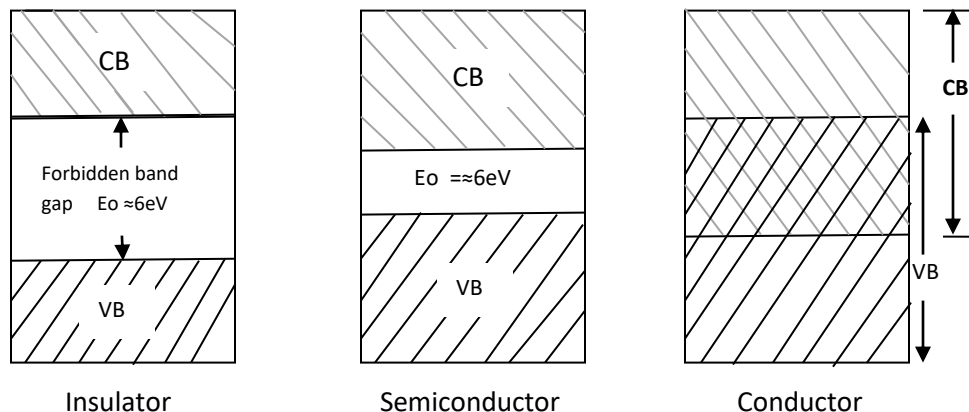

FIG:1.1 Energy band diagrams insulator, semiconductor and conductor
**Insulator:** An insulator is a material that offers a very low level (or negligible) of conductivity when voltage is applied. Eg: Paper, Mica, glass, quartz. Typical resistivity level of an insulator is of the order of  $10^{10}$  to  $10^{12} \Omega\text{-cm}$ . The energy band structure of an insulator is shown in the fig.1.1. Band structure of a material defines the band of energy levels that an electron can occupy. Valance band is the range of electron energy where the electron remain bended too the atom and do not contribute to the electric current. Conduction bend is the range of electron energies higher than valance band where electrons are free to accelerate under the influence of external voltage source resulting in the flow of charge.
For an insulator, as shown in the fig.1.1 there is a large forbidden band gap of greater than 5eV. Because of this large gap there a very few electrons in the CB and hence the conductivity of insulator is poor. Even an increase in temperature or applied electric field is insufficient to transfer electrons from VB to CB.
**Conductors:** A conductor is a material which supports a generous flow of charge when a voltage is applied across its terminals. i.e. it has very high conductivity. Eg: Copper, Aluminum, Silver, Gold. The resistivity of a conductor is in the order of  $10^{-4}$  and  $10^{-6} \Omega\text{-cm}$ . The Valance and conduction bands overlap (fig1.1) and there is no energy gap for the electrons to move from valance band to conduction band. This implies that there are free electrons in CB even at absolute zero temperature (0K). Therefore at room temperature when electric field is applied large current flows through the conductor.